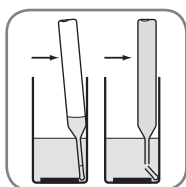

Figure 4
5. Place the Auto-Test cuvette in the sample cup and snap the tip by pressing the cuvette against the side of the cup. The cuvette will fill leaving a small bubble to facilitate mixing. **See Fig 4.**
- Place the Auto-Test cuvette in the sample cup and snap the tip by pressing the cuvette against the side of the cup. The cuvette will fill leaving a small bubble to facilitate mixing. See Fig 4.